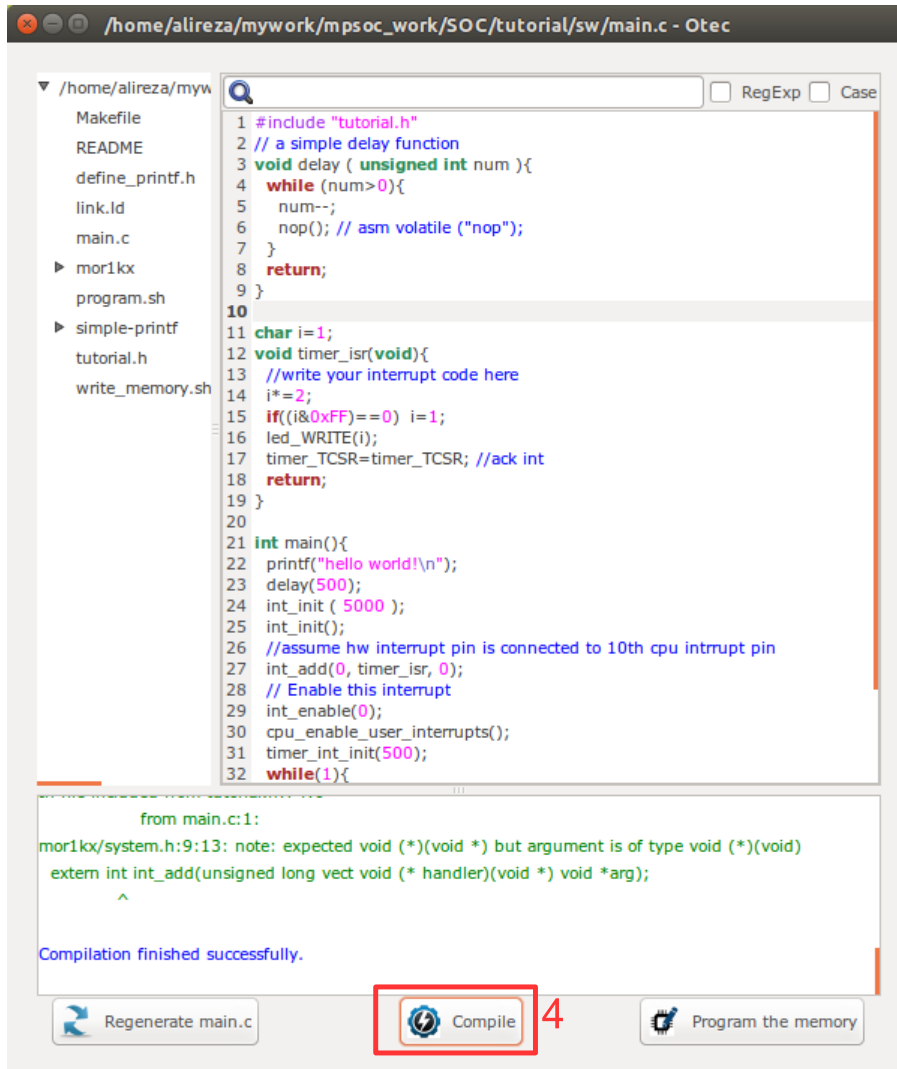

Figure 5.15: Compile the software code.
4. Now press the  Compile button. This will compile the C code using Mor1kx GNU toolchain. If everything runs ok, you must see "compilation finished successfully" message as shown in Figure 5.15. Otherwise, check the error message to fix your code and press the compile button again. If every thing runs successfully you must have ram0.bin, ram0.hex, and ram0.mif files in your sw/RAM directory.